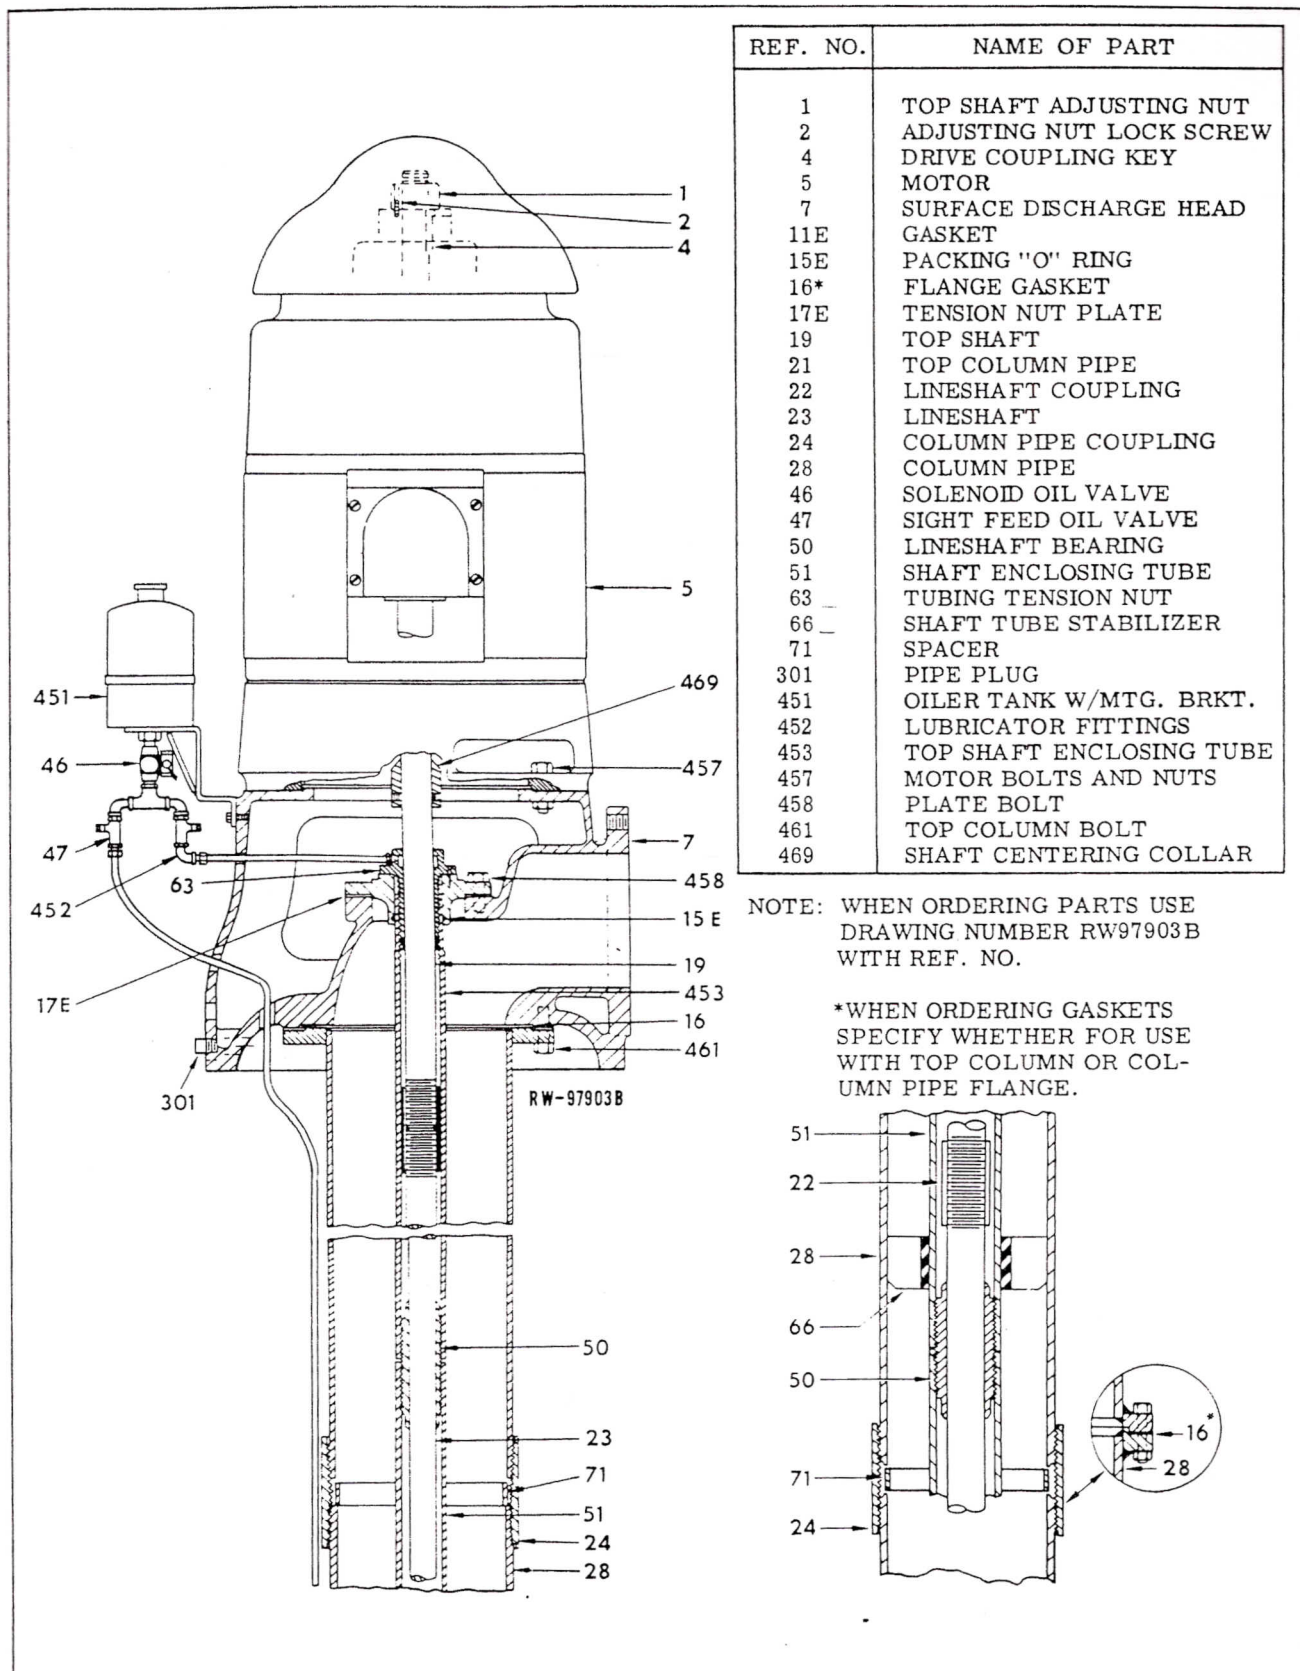

Figure 6-2. Enclosed Lineshaft Pump and List of Parts
- b. Remove the cover from the top of motor and remove adjusting nut lock screw (2, figure 6-2) and adjusting nut (1, figure 6-2) from upper end of top shaft.
- d. Remove bolts (457) that secure motor to discharge head (7).
drawing applicable to the pump (figures 6-2, 6-3, 6-4 and 6-5), and pump element (figure 6-6), the quantity required and where possible, the complete symbols stamped on the old part. Orders for replacement parts should be sent to the nearest Worthington District Office.